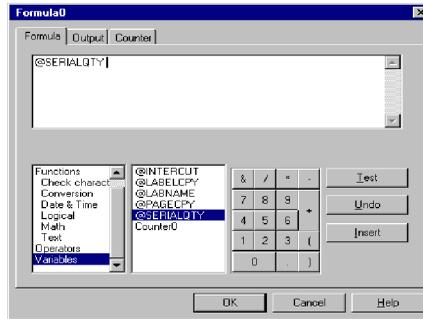

Figure 31 Using a control variable in a formula
- 4 Insert the **@SERIALQTY** control variable, situated under **Variables** (see **Figure 31** below).